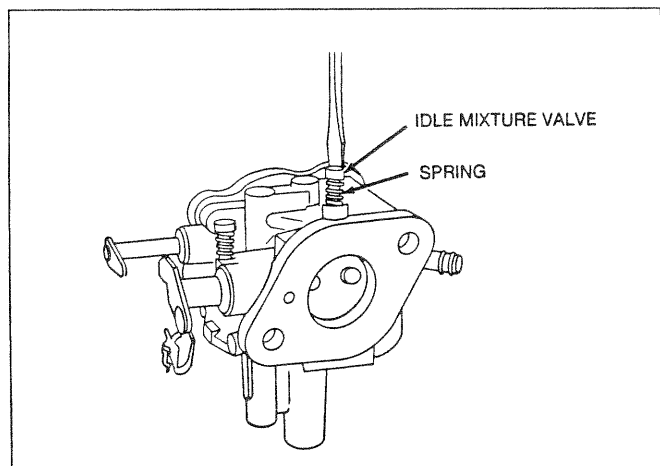

Figure 138. Idle Mixture Valve Installation
- Install idle mixture valve and spring (Figure 138). DO NOT TIGHTEN THE VALVE.